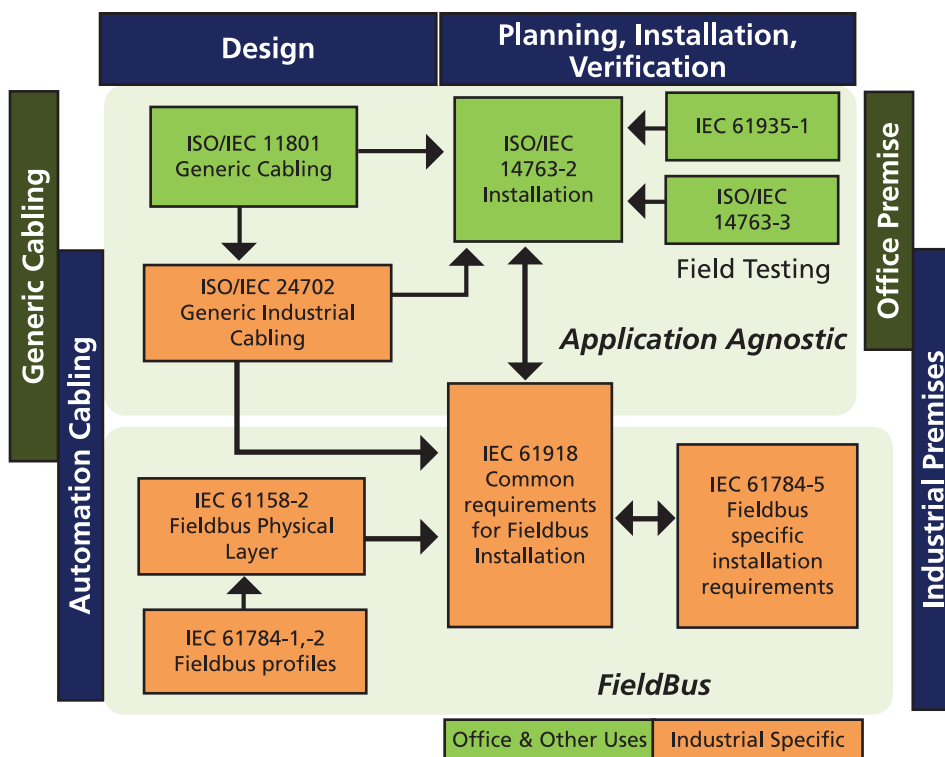

Figure 1: Key ISO and IEC cabling standards.
Now that you know which committees are at work, let’s look at how the specific standards they develop relate to your network. Figure 1 maps out the key ISO, IEC and joint ISO/IEC standards you need to be concerned with, first in the design, and then in the planning, installation, verification, and testing of industrial Ethernet. The upper tier is application agnostic and applies to generic cabling in office premises. Moving down on the vertical axis of the figure, the lower tier applies to Fieldbus, industrial premises, and automation environments. Let’s take it from the top.
In Figure 1 you can see the relationship and overlaps between the standards we discussed. The function is mapped on the horizontal axis and the premises and cable type on the vertical axis. Note that ISO/IEC 24702, the generic cabling standard for industrial premises, overlaps both on office and industrial premises, and generic and automation cabling. IEC 61918, the installation specification for Fieldbus, covers generic cabling. There is room for further harmonization for ISO/IEC 24702, ISO/IEC 14763-2, and the Fieldbus documents, which the joint working groups are actively addressing. ISO/IEC 24702 takes precedence for cabling between the office environments up to what is called the telecommunication outlet (TO). This is denoted as the automation outlet (AO) in the Fieldbus installation specification. This AO/TO is the connection to what is called an Automation Island. In addition, the next version of ISO/IEC 14763-2, which will add industrial installation requirements, is being coordinated with SC65C/JWG10, the committee that maintains IEC 61918 and IEC 61784-5.